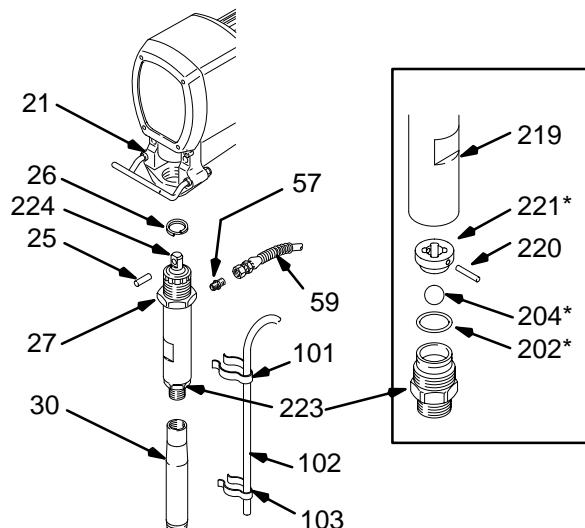

Fig. 11
### Removing the pump See Fig. 11.
1. Unscrew the intake valve (223) and remove all parts. See Fig. 11.
9. Assemble and install the intake valve. Use a new gasket (202\*). Tighten the valve to 67 ft-lb (90 N.m.). See Fig. 11.